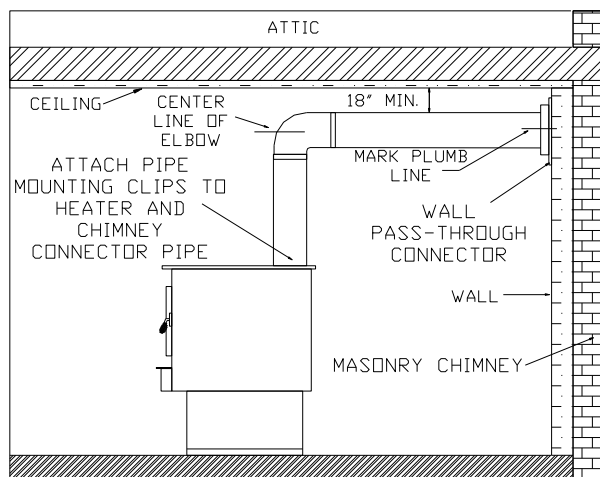

Figure 7
1. Before connecting these units to a masonry chimney, determine that masonry fireplace wall pass through connector thimble meets **NFPA-211** Code and local building codes and is a minimum of 18" from ceiling. If connector thimble does not meet these codes, the pass-through connector must be modified. (See Figure 7.)